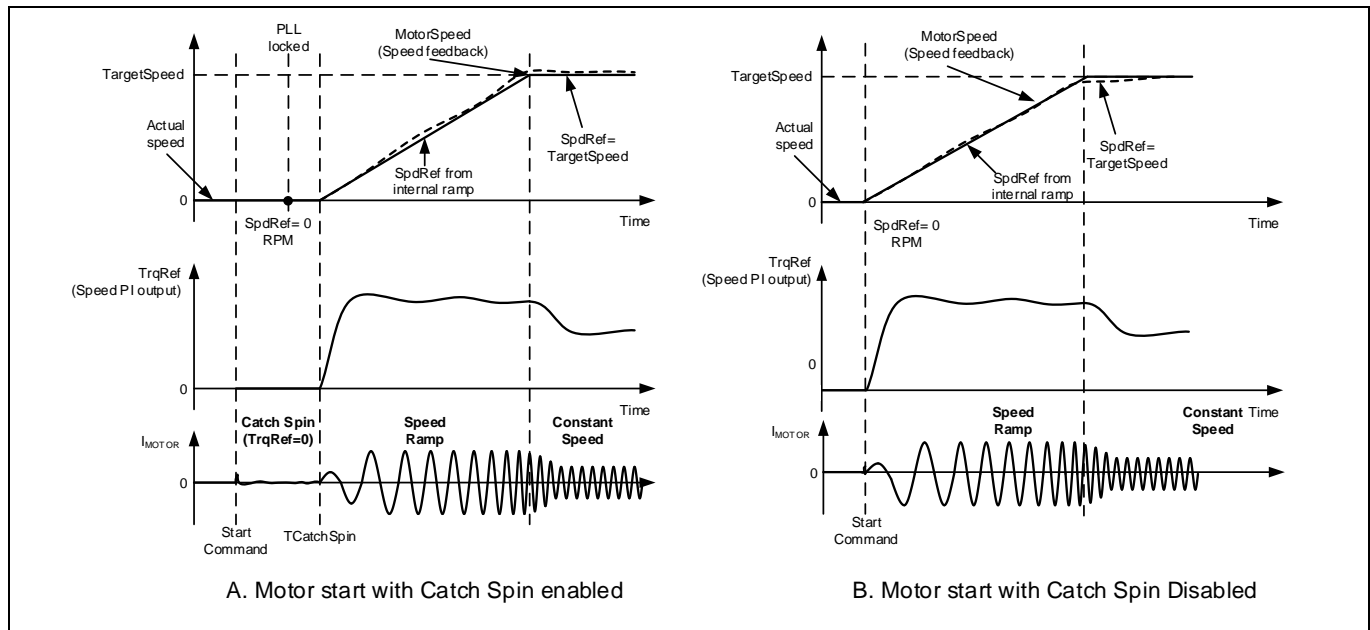

Figure 15 Zero Speed Catch Spin - Motor start with/without catch spin
If the motor is stationary, then the catch spin sequence is termed as ‘Zero Speed Catch Spin’. Figure 15(A) shows an example for ‘Zero Speed Catch Spin’. In this example, at the start command, the motor is stationary. After the start command, ‘Zero Speed Catch Spin’ sequence begins. During the catch spin sequence, no motoring current is injected. After the catch spin time has elapsed, the motor speed at that instance (which is 0 RPM) becomes initial speed reference and starting point for speed ramp reference. The motor continues to accelerate, following the speed ramp reference to reach the set target speed.
If catch spin is disabled, normal speed control starts immediately after the start command, without waiting for PLL to be locked. As shown in Figure 15 (B), after the start command, motoring current is injected directly as there is no catch spin sequence. The motor starts accelerating, following the speed ramp reference to reach the set target speed.